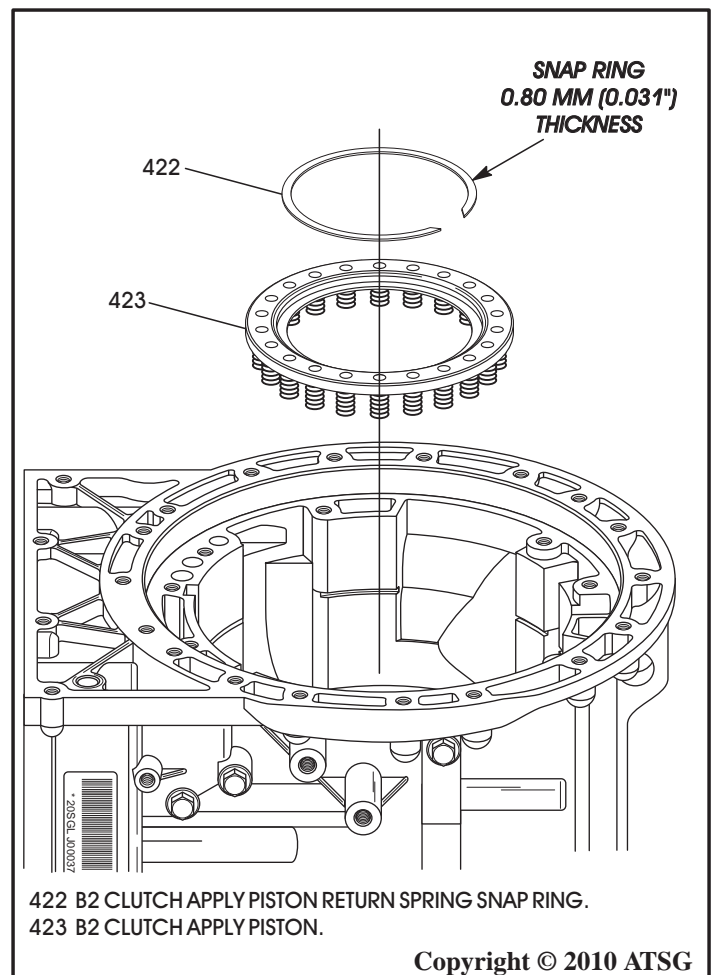

Figure 73
67. Remove snap ring and return spring assembly from the case, as shown in Figure 73.